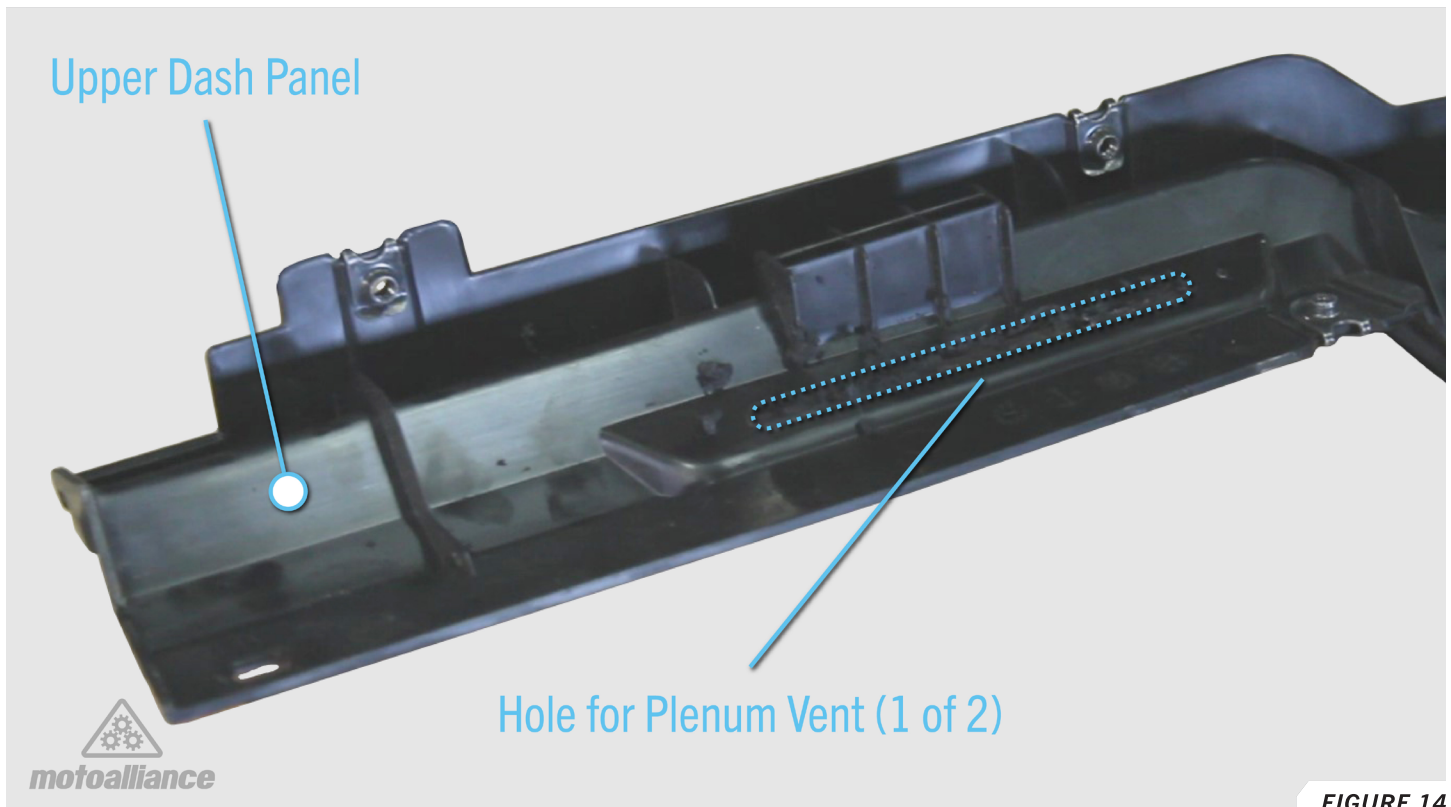

FIGURE 14
31. Take the upper dash panel and find the locations for plenum vents. Drill a hole through the ends of each plenum vent location, then cut out the plenum vent holes. *FIGURE 14*